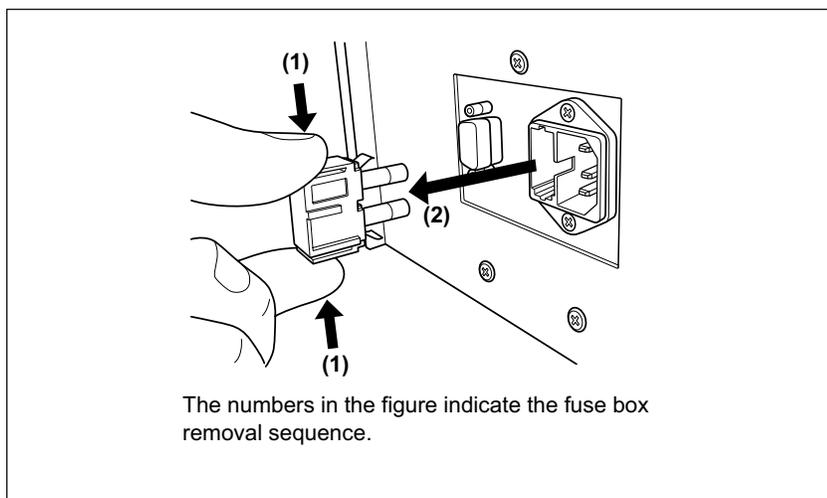

Figure 4.3
4. Push the tabs on the fuse box in the directions shown and take out the fuses (see Figure 4.3).